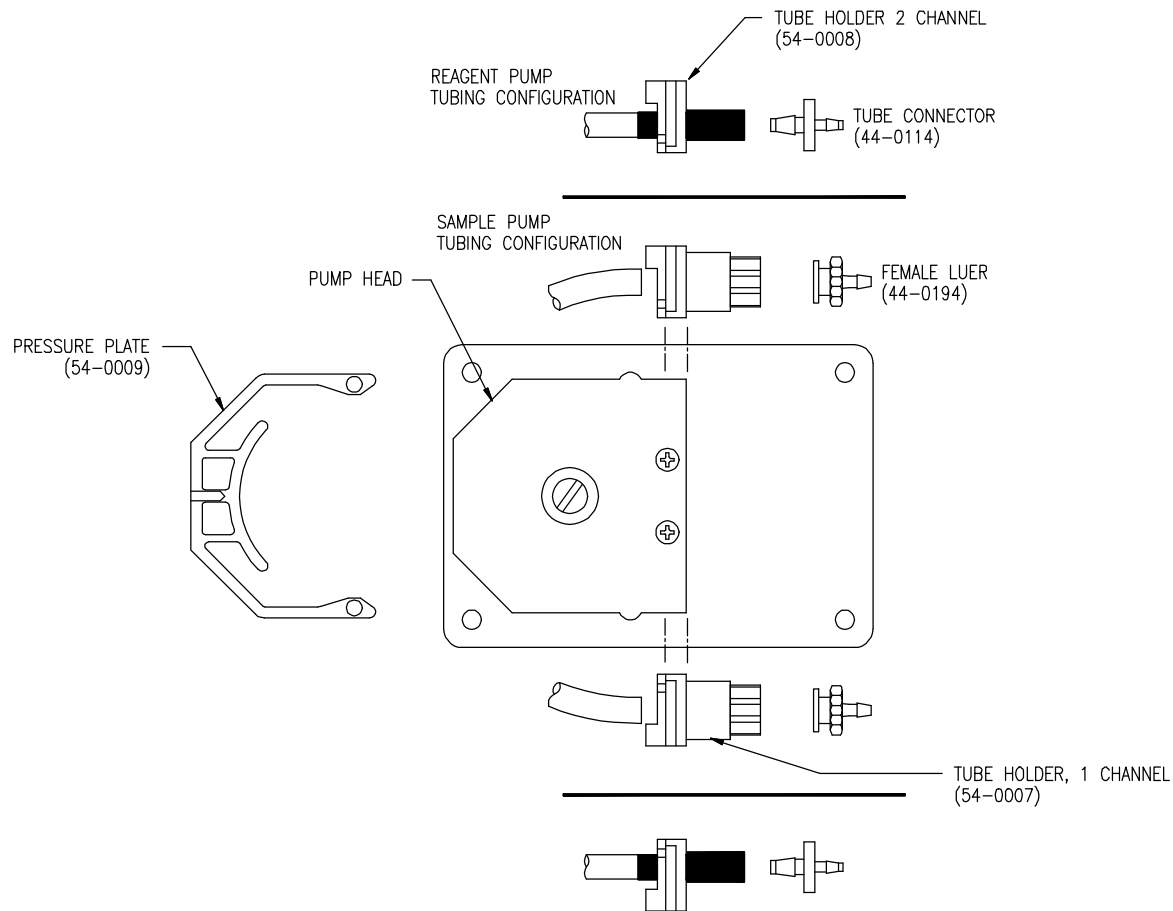

Figure 11 - Pump Tubing Assy
1. Remove the tubing clamp plate from the rear of the pump. This is done by gently pressing in on the sides of the plate and pulling it backward. See Figure 11 for an exploded view.